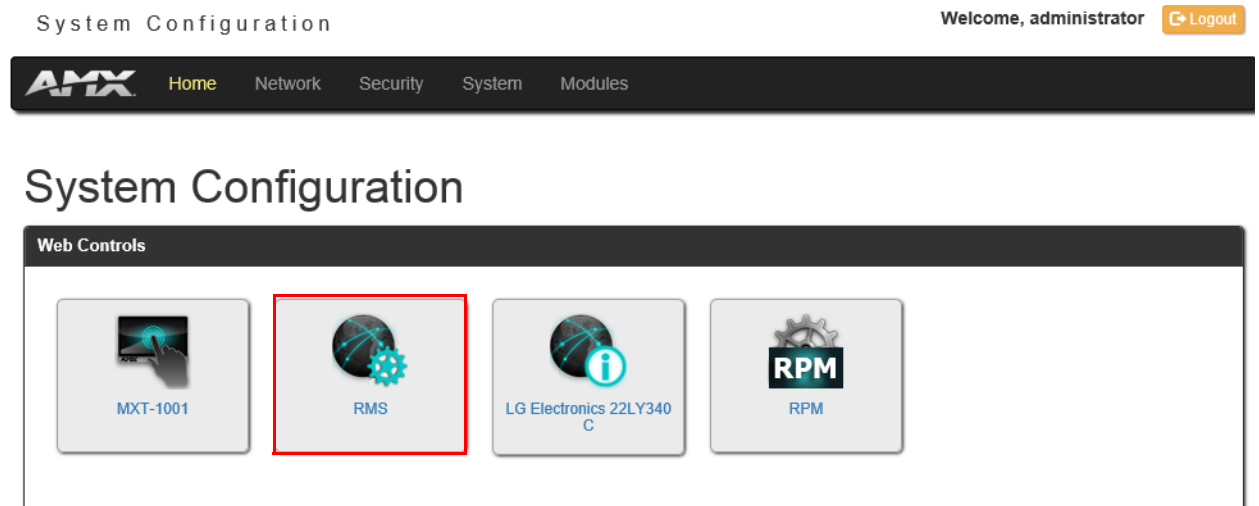

FIG. 5 RMS Client Web Configuration
1. In the NetLinx master's web console, select **System > Manage Devices** to access the *Device Options* page shown in FIG. 5: